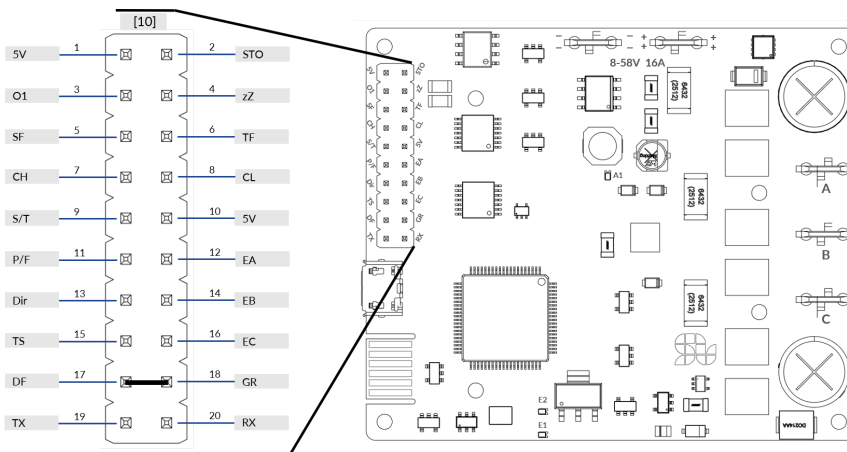
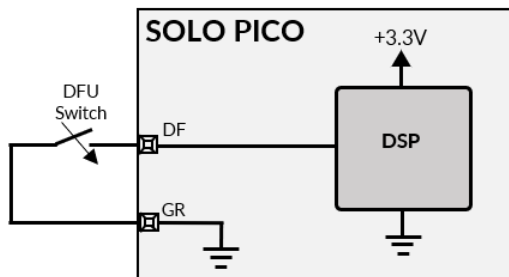

Figure 17 - DFU Mode Wiring
Figure 18 - DFU Mode Wiring
As can be seen in Figure 17 and Figure 18 in order to put SOLO in DFU Mode, the DFU input (pin 17 of control connector) must be connected to ground (pin 18 of control connector).
3. Compute the PT1000 resistance as the PT1000 temperature sensor is practically a resistor, it will form a resistor divider network with  $R_1$  resistor shown above in Figure 17 .